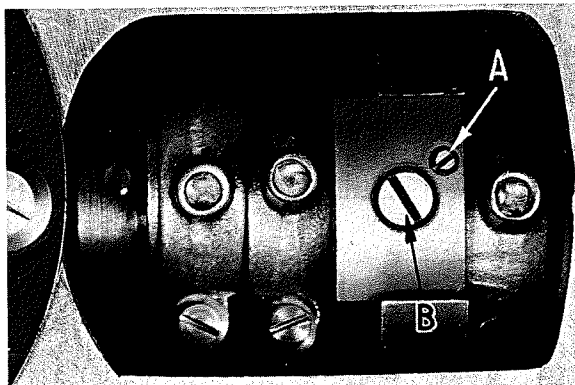

Fig. 15
screw (A, Fig. 15) and adjusting screw (B) are in view. Loosen lock screw and turn adjusting screw in the required direction. Turning the adjusting screw clockwise shortens the stitch and counterclockwise lengthens it. Retighten lock screw and swing the arm cover plate back into position.
Stitch length adjustment is made through the access hole in the top of the arm (Fig. 15). Swing arm cover plate out of position and turn the handwheel in operating direction until lock